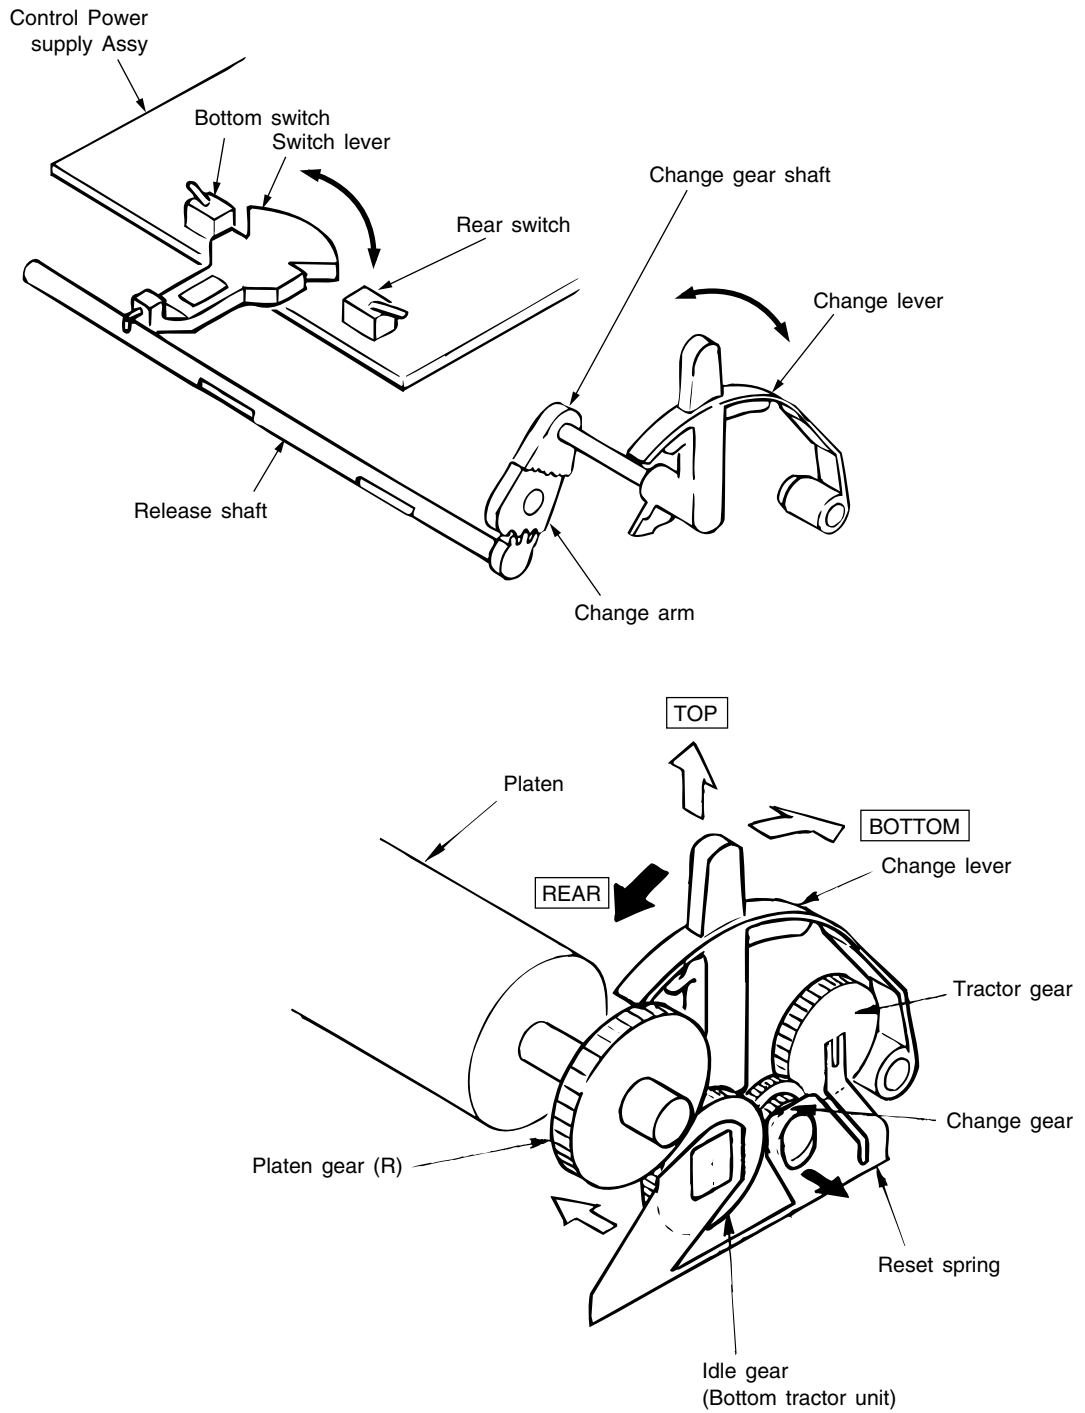

Figure 2-8
## (1) Cut sheet and continuous sheet switching mechanism (See Figure 2-8.)